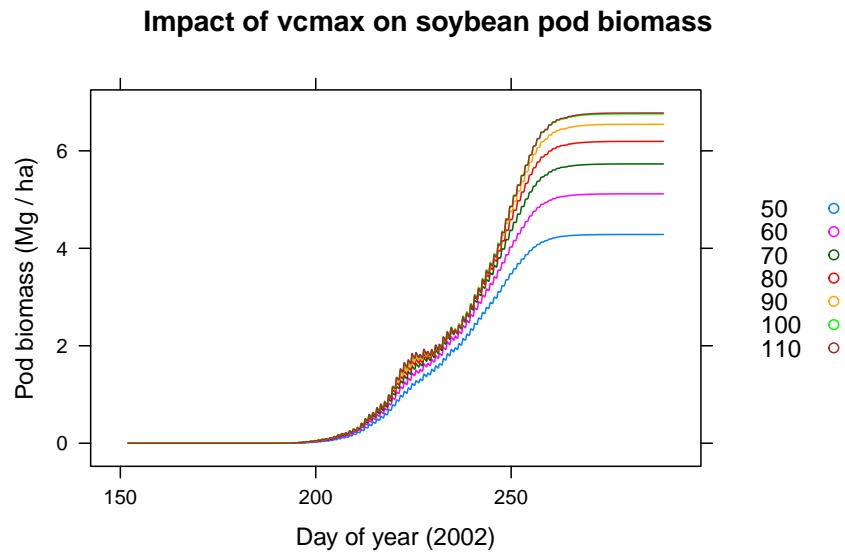

Figure 2: Soybean pod biomass throughout 2002 simulated with different values of $v_{c,\max}$.
- Run the soybean simulation a few times with several different values of a key parameter (such as `Vcmax_at_25`, which represents the maximum rate of carboxylation $v_{c,max}$) and compare plots of the time evolution of the `Grain` quantity (representing the pod mass per unit area) in each of the scenarios. (See Figure 2 for a possible solution.)